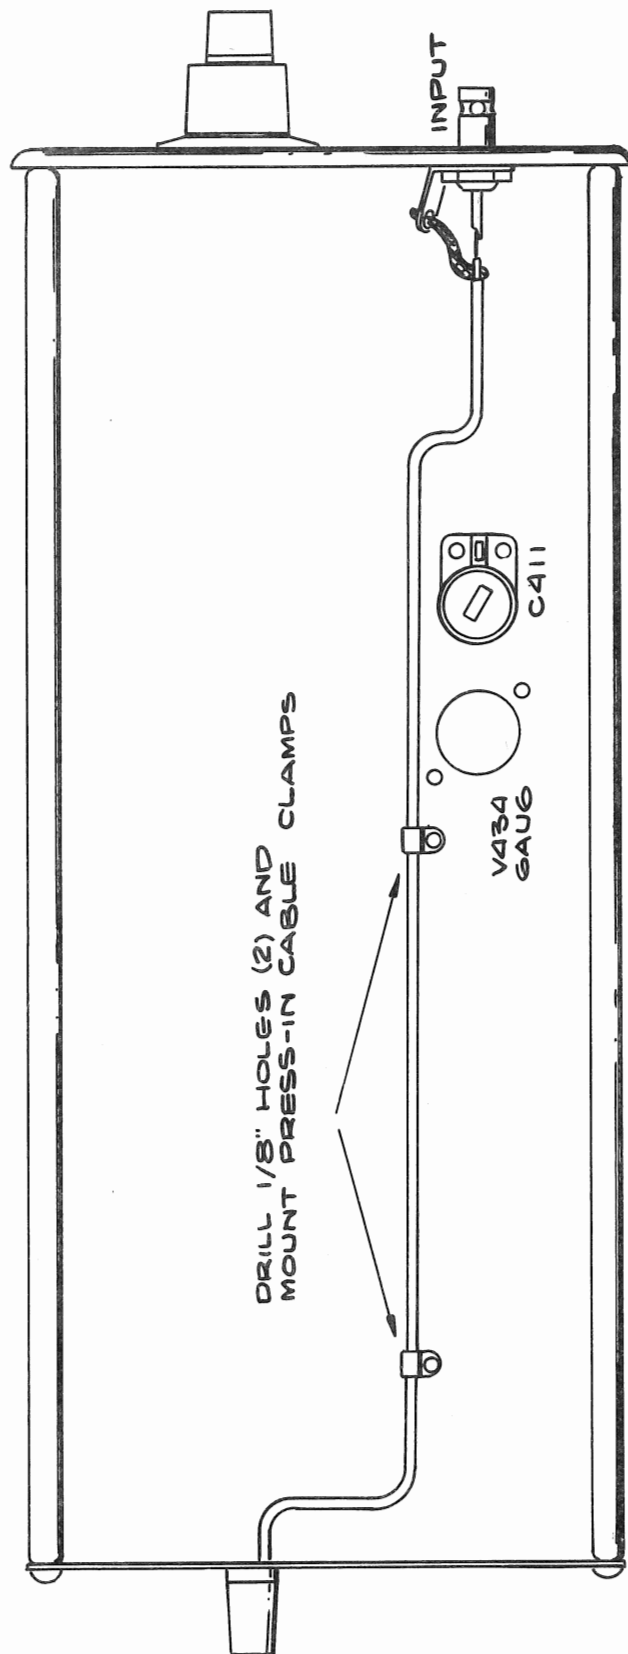

Fig. 2, 60/2A60
- ( ) 3. Drill two 1/8 in. holes as shown in Fig. 2 (on following page).
- ( ) 4. Dress the coax along the chassis to the INPUT connector (see Fig. 2). Solder the center conductor to the connector and the shield to the ground lug.